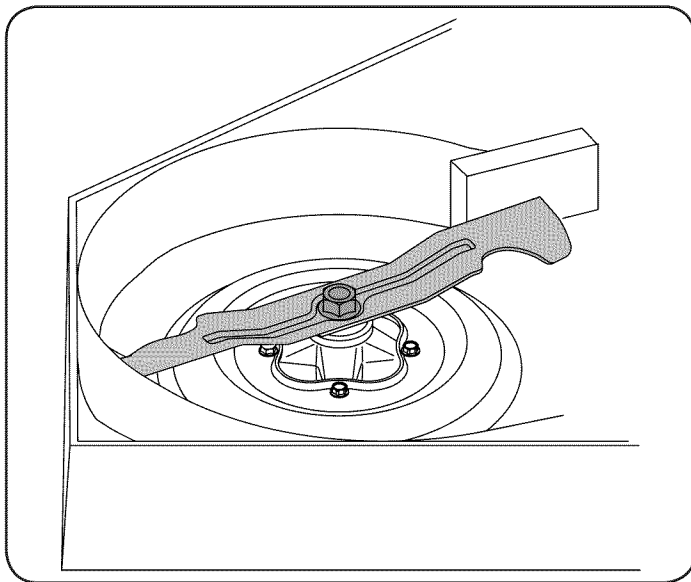

Figure 40
2. Wrap a rag around one end of the blade and grasp it to prevent it from turning, or secure the blade by placing a block of wood between the blade and the deck housing. See Figure 40.